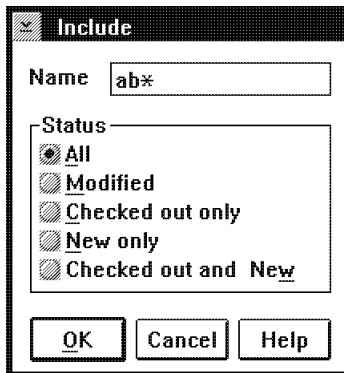

Figure 19. Include Window
1. Select **Include** from the **View** pull-down. You see the Include window shown in Figure 19.
1. Select **Include** from the **View** pull-down. You see the Include window shown in Figure 19 on page 33.